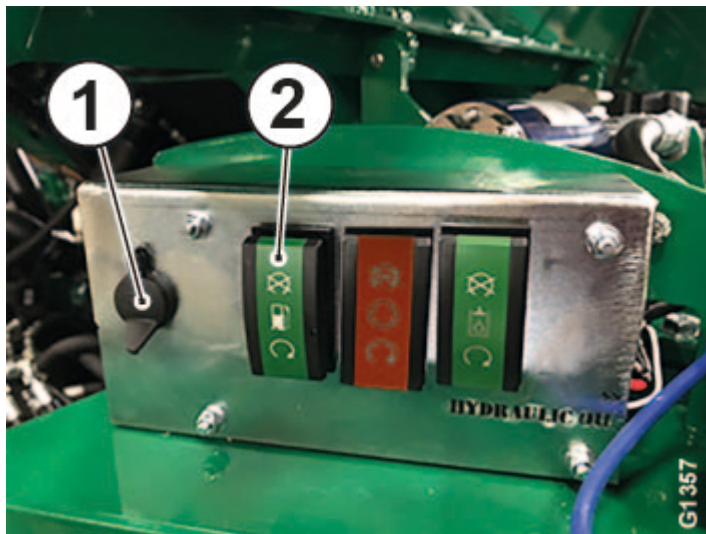

Fig. 120 Filling fuel
- A 24 V outlet (1) is included as standard under the cover to operate an external fuel pump.
- As an optional extra, the machine can be fitted with an automatic fuel pump, see Fig. 120 *Filling fuel*, page 144. Connect the filling hose to the 1/2" quick connection and start the pump by pressing the ON button (2). The tank is fitted with a level monitor which automatically stops the pump. It is also possible to manually stop the pump by pressing the OFF button.